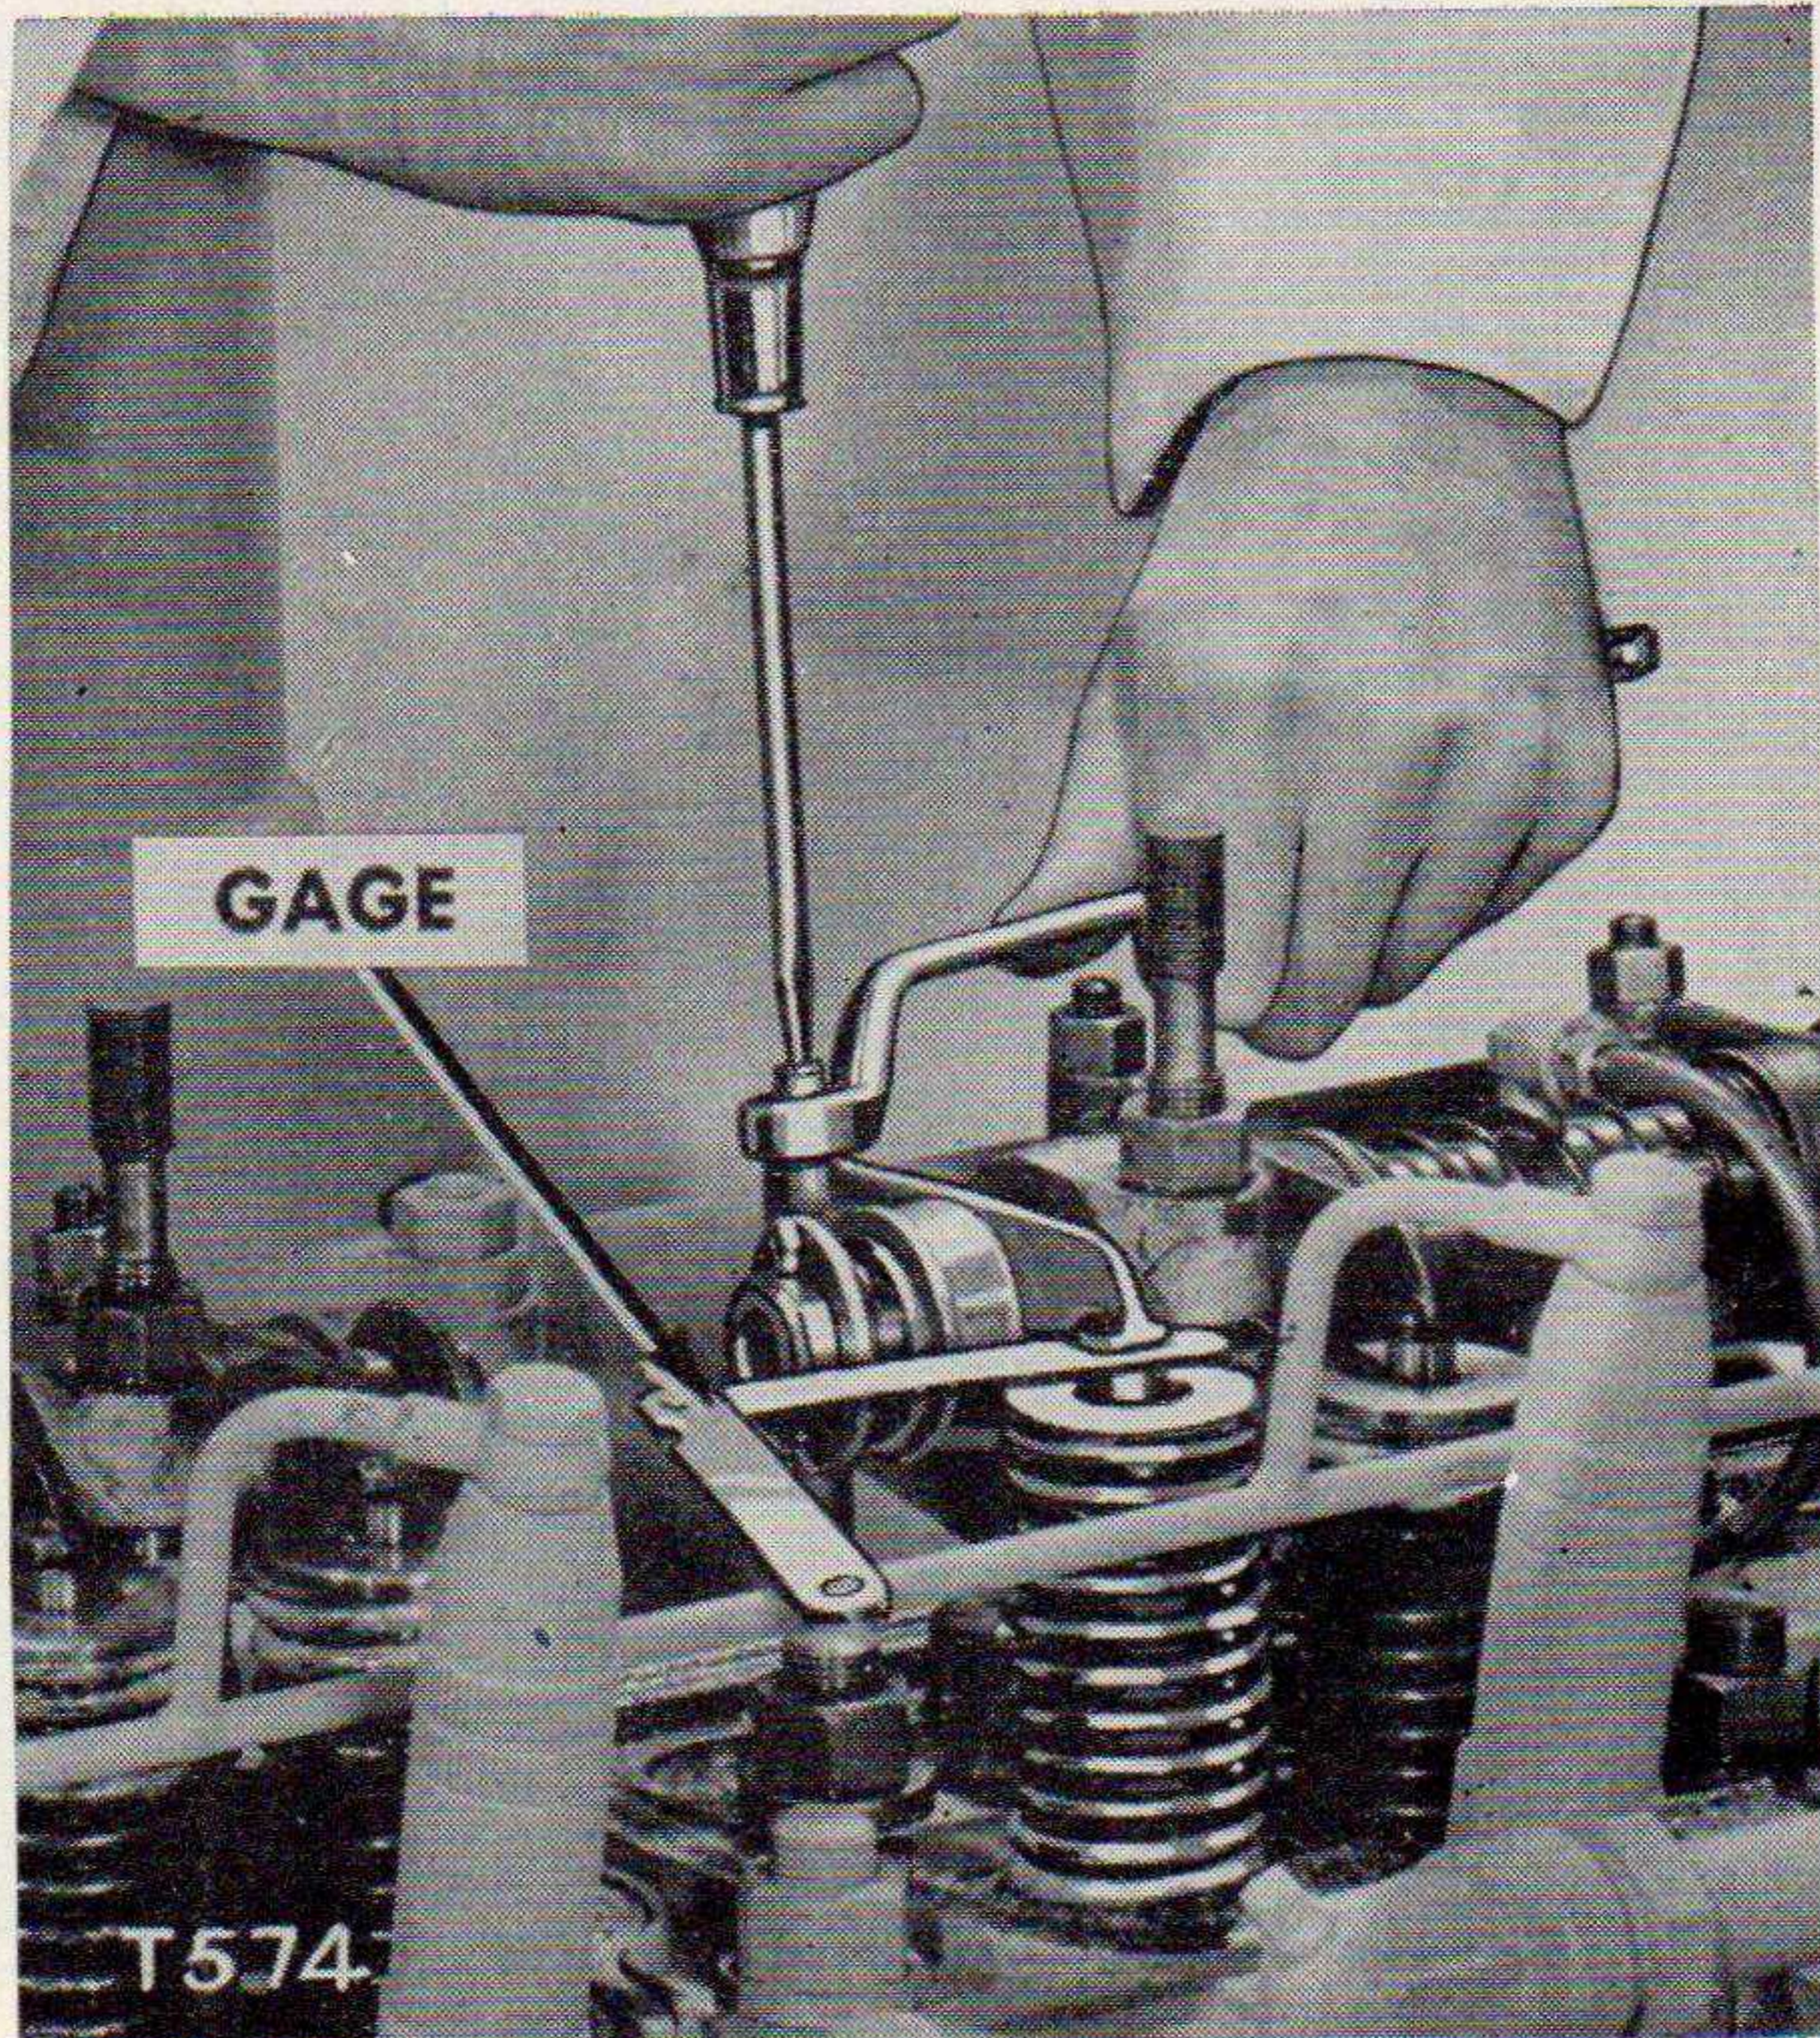

Figure 70. Adjusting inlet and exhaust valve clearance.
- (4) *Move compression release lever.* Move the compression release lever to the "START" position to make it easier to turn the crankshaft but place the lever in the "RUN" position, before the valve clearances are checked.
- (5) *Adjusting inlet and exhaust valve clearance.* (See fig. 70.)